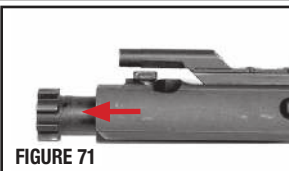

FIGURE 71
- Once the bolt carrier is removed from the firearm, grasp the bolt and pull it fully forward in the bolt carrier to the forward-most (unlocked) position (FIGURE 71).